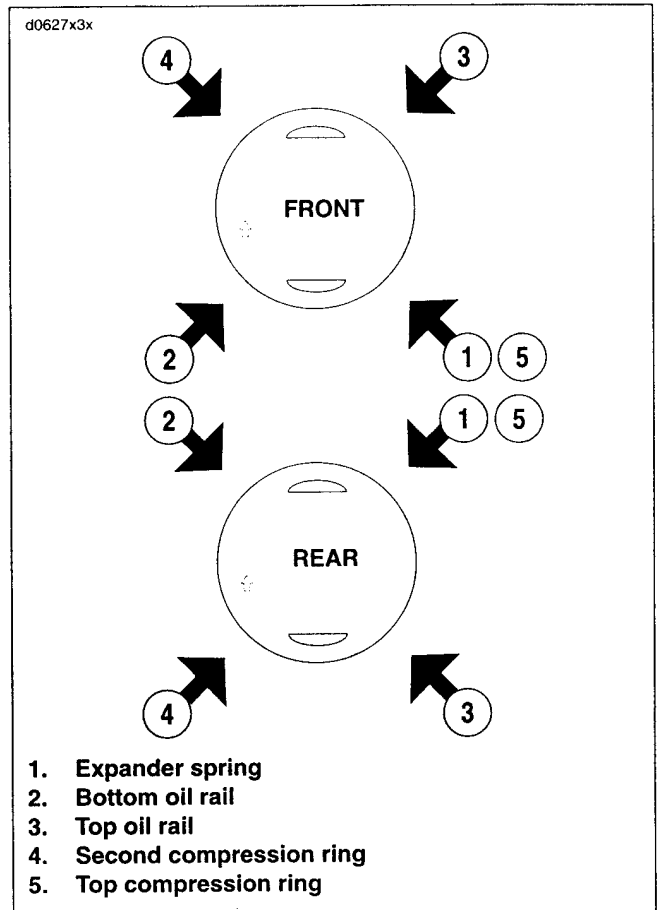

Figure 3-34. Piston Ring Alignment
3. See Figure 3-34. Verify that the piston ring end gaps are staggered. Rotate each ring to position the gap 90 to 180 degrees from the gap in the ring above it. Locate the top piston ring (5) gap towards the intake port.